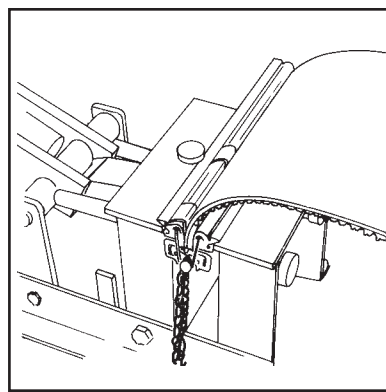

Figure 8
**11. INSPECT LACE.** If hook clinch is good (Fig. 10), slide Lacing Tool so other end aligns with edge of jaws (Fig. 8). Repeat Step 10.